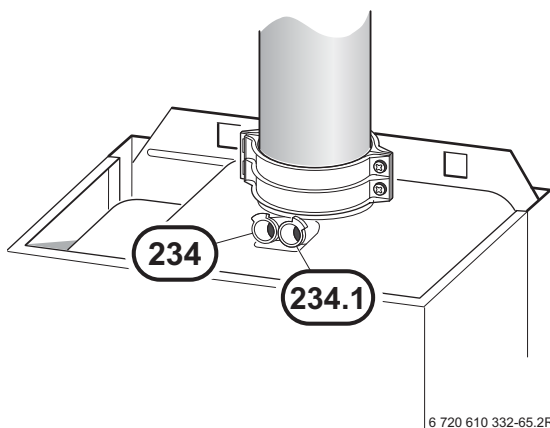

Fig. 46
- ▶ Remove sealing plug from combustion air testing point (234.1, fig. 46).
- ▶ Remove sealing plug from flue gas testing point (234, Fig. 46).